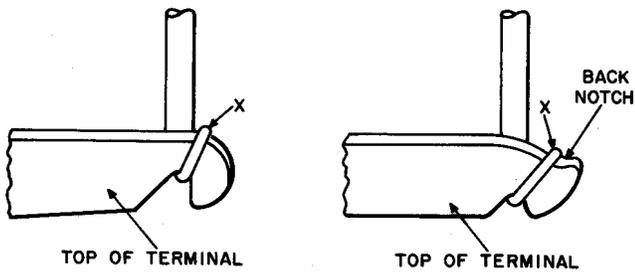

Fig. 8—Termination of Wire on Horizontal Terminal With a Single Notch (Top View)
7.12 To terminate a wire on a terminal in a horizontal position with a single notch with or without a back notch (such as a vertical IDF), route the wire along the bottom of the terminal, through the notch, back along the top of the terminal, and terminate at the back or back notch as shown in Fig. 8. Cut or break the wire at point "X". 20-gauge wire should be cut.